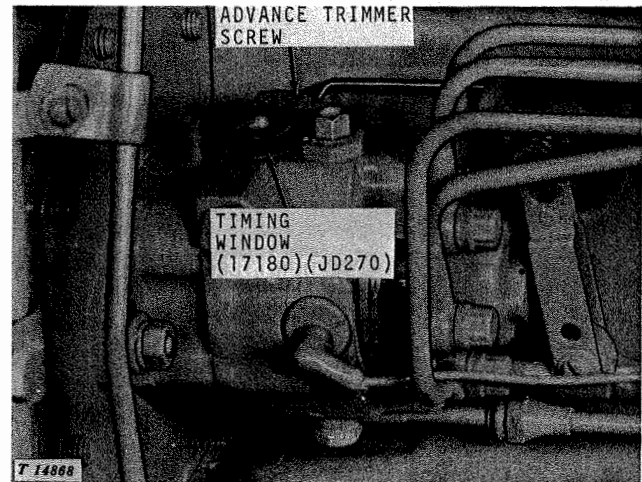

Fig. 15-25-5 - Adjusting Cam Advance
2. Install timing window (Fig. 15-25-5).